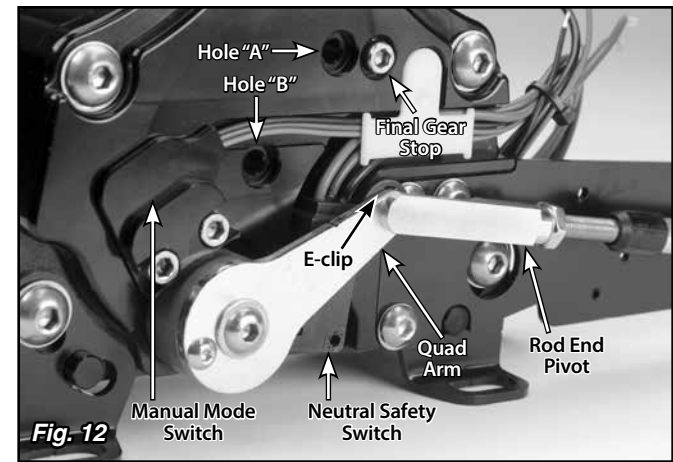
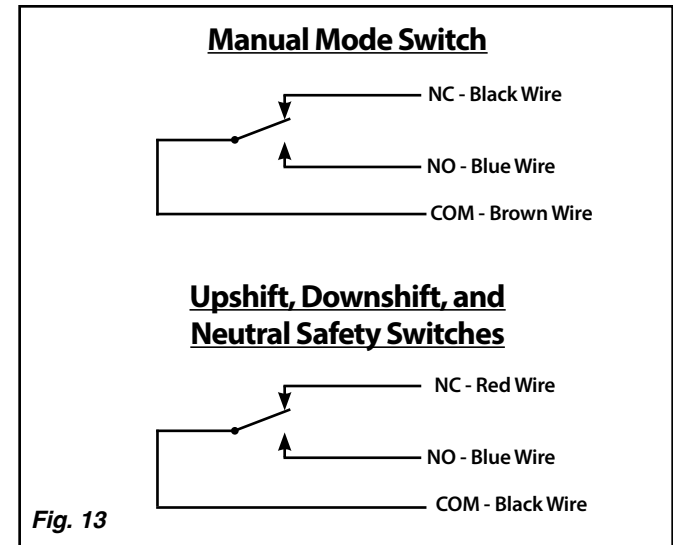

Fig. 12
Fig. 13
Step 15: Verify the shifter is in the Park position. Adjust the position of the rod end pivot on the end of the cable so the stud on the rod end pivot lines up with the hole in the quad arm on the Shifter. Push the stud through the hole and install the 3/16" E-clip into the groove on the stud. **Fig. 12**
To eliminate the final gear stop, remove the Final Gear Stop bolt shown in **Fig. 12** on the driver side of the shifter, using a 5/32" Allen wrench.
The Manual Mode switch is on the driver side of the shifter as shown in **Fig. 12**. The black wire is connected to the normally closed (NC) terminal. The blue wire is connected to the normally open (NO) terminal. The brown wire is connected to the common (COM) terminal. **Fig. 13** Manual Mode is activated by pushing the shifter lever to the passenger side when the Shifter lever is in either the Drive position or the Sport position, depending on your shifter. The Manual Mode switch will then provide continuity between the brown wire and the blue wire. Pushing the lever back to the driver side turns Manual Mode off.
The upshift, downshift, and neutral safety switches are identical to each other. Each switch has black, blue, and red wires. The red wire is connected to the normally closed (NC) terminal. The blue wire is connected to the normally open (NO) terminal. The black wire is connected to the common (COM) terminal. **Fig. 13**
Step 1: Install the #10-32 x 1/2" socket head screws from the packet with your Position 1 detent disc into the holes labeled "A" and "B" in Fig. 12
Step 17: Remove the #10-32 x 1/2" socket head screws from holes "A" and "B" in **Fig. 12** using a 5/32" Allen wrench.